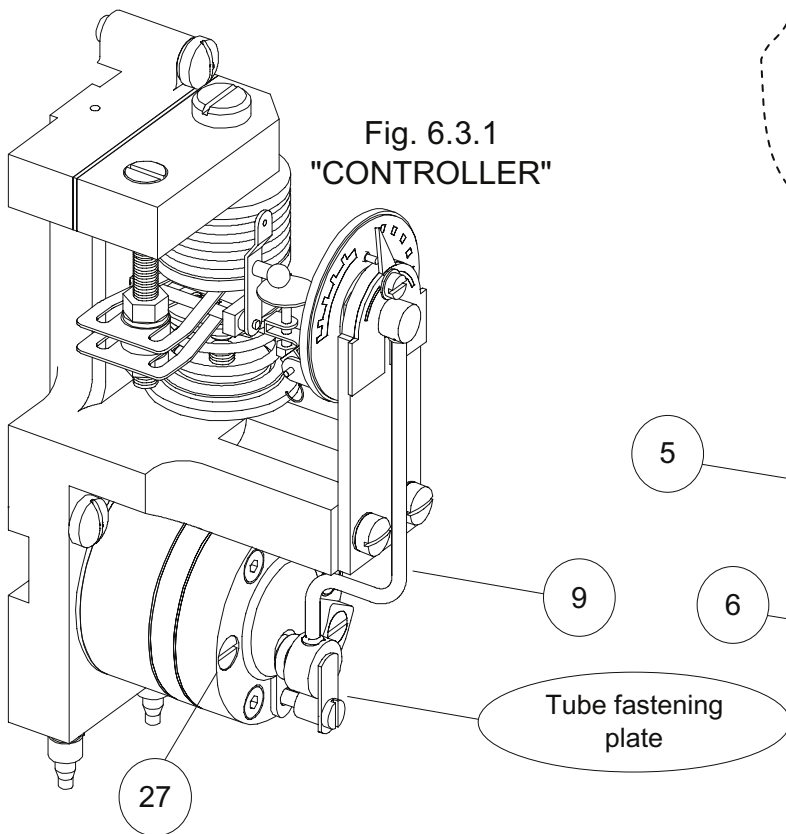

Fig. 6.3.1
- 1) Loosen the tube fastening plate to the relay (9) (see Fig. 6.3.1).
- 2) Remove the bottom connection of the tube (9) (see Fig. 6.3.1).
- 3) Remove the three fastening screws (27) and extract the relay (see Fig. 6.3.1).